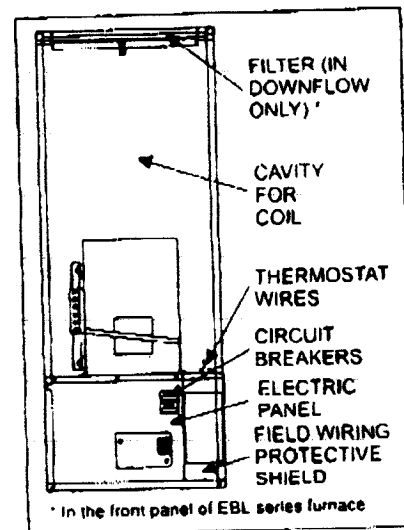

FIGURE 1
To remove blower from furnace, turn off power at household service box, turn furnace circuit breakers OFF. Disconnect wiring to blower, and remove five (5) screws holding blower in furnace and slide blower out from front of the furnace. See Figure 1.
Your electric furnace is equipped with a unique safety feature - circuit breakers. These circuit breakers are located behind the door of the furnace, near the bottom of the furnace. See Fig. 1. If a component should fail inside the furnace, the circuit breakers will prevent damage that can be caused by an electrical short. If the breakers ever trip, they can be reset by first turning off the power to the furnace at the home's circuit breaker panel. See Warning below. Then remove the furnace door and reset the circuit breaker in the furnace. Re-install the furnace door and turn the power back on at the home's breaker panel. If for some reason these circuit breakers should trip again, a service man should be contacted as a problem exists inside the furnace. A list of authorized service centers is provided with every furnace and will assist you in obtaining service for your furnace.
**FILTER LOCATION:** The furnace's front panel must be removed to gain access to the filter of the downflow furnace. (See Figure 1.) However, the filter for the upflow furnace\* is located behind the return air grill, adjacent to the furnace closet or any other location in the return air. For EBL series furnaces air filters are located inside the front panel.